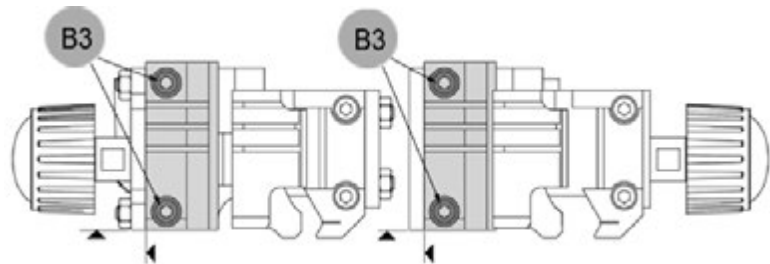
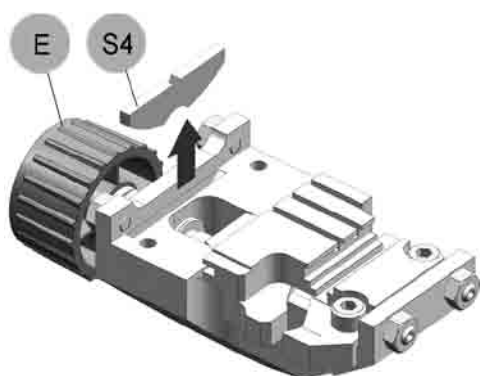

Fig. 86
Fig. 89
- 2) Fit the new jaw up against the left-hand side and align also from the front (Fig. 86).
- 2) Remove the knob (E) stop plate (S4) (Fig. 89).
- 3) Fully unscrew the knob (E).
- 6) Fit the stationary jaw up against the left-hand side and align also from the front (Fig. 86).